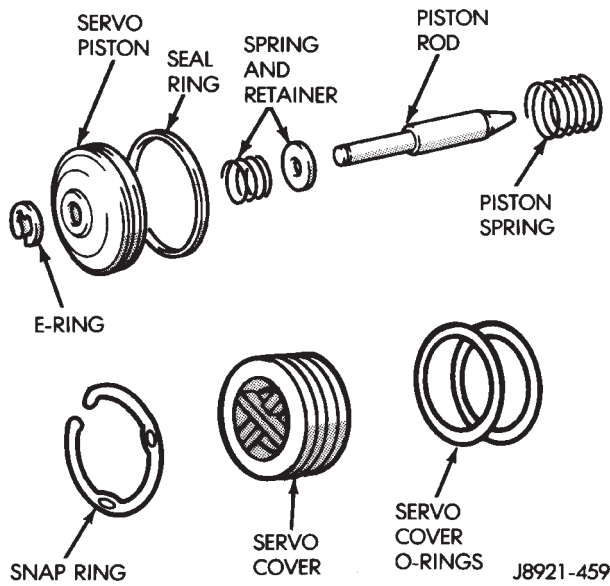

Fig. 29 Second Coast Brake Piston Components
(37) Disassemble second coast brake piston (Fig. 29).